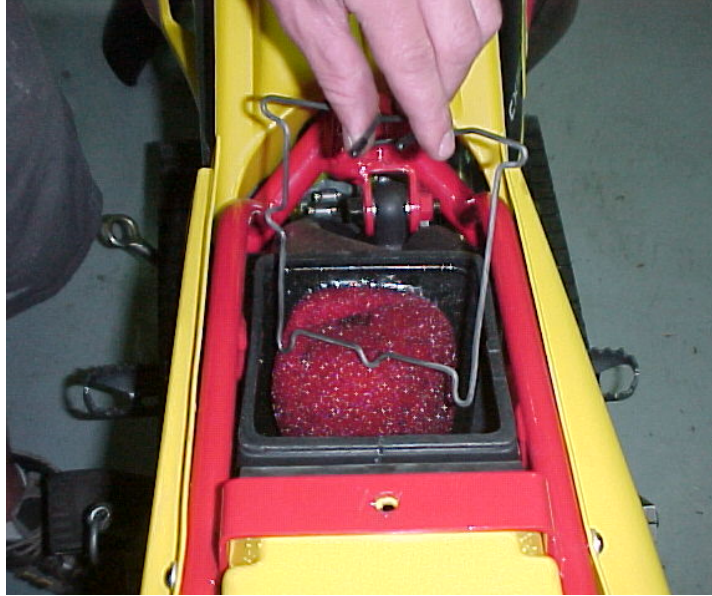

Figure A2
5. Squeeze the two finger tabs together on the wire retainer and install into the airbox as in figure A2